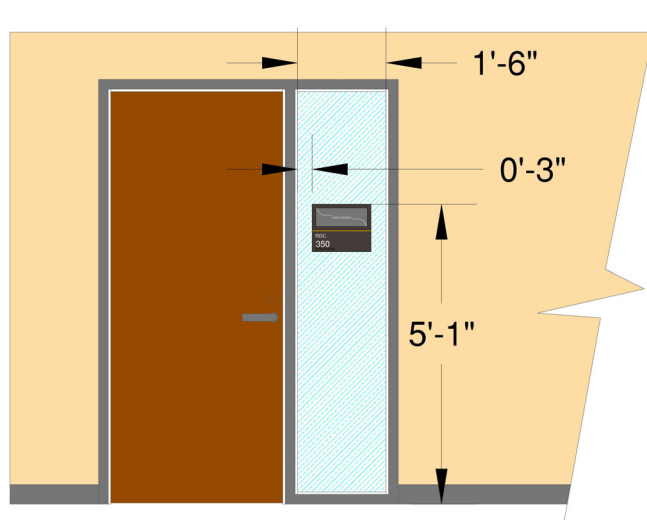

Figure 30.5
- 30.5. Room identification sign installations, for sidelights that are 18 inches or wider, shall comply with figure 30.5.